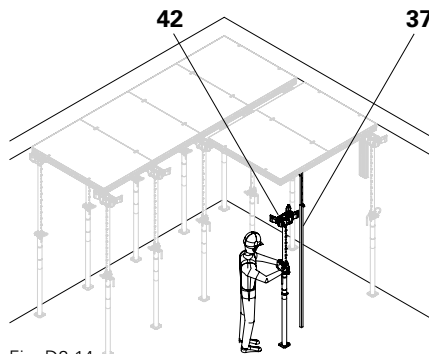

Fig. D2.14c
3. Place the slab prop with DBH backpropping head (42) at the end of the panel in an inclined position from the inside and align outwards. Spacing 1.50 m (Fig. D2.14c)